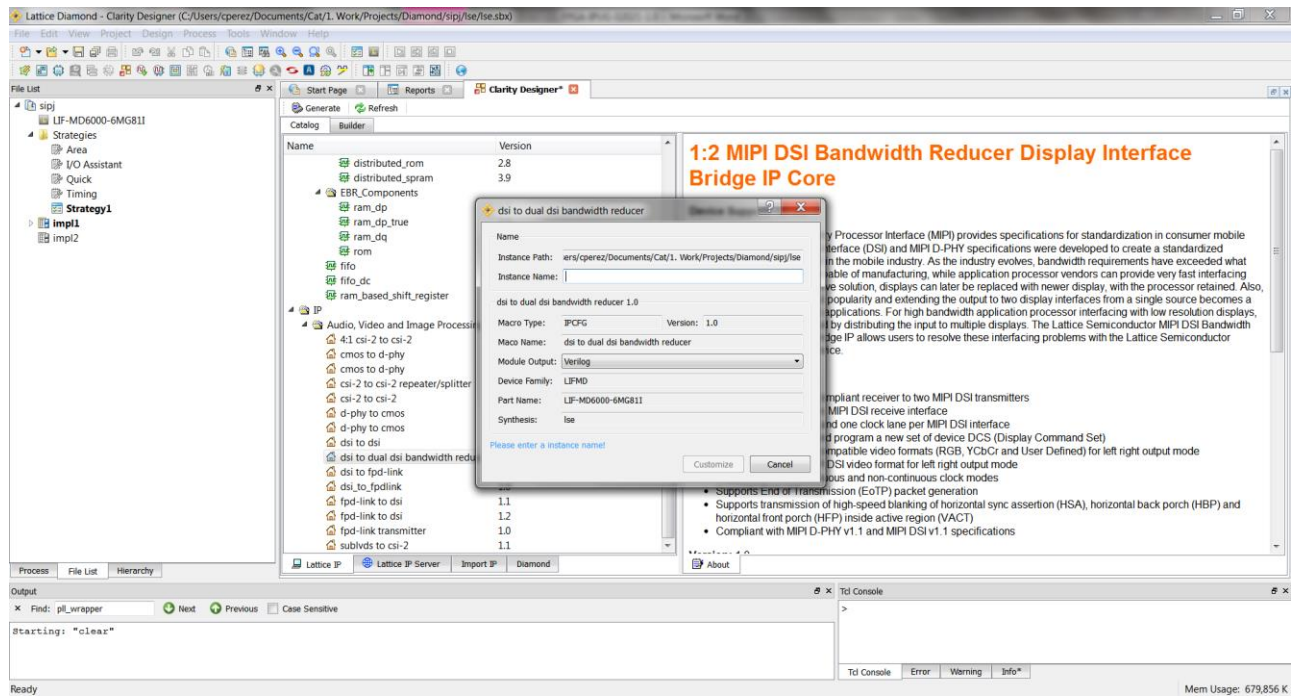

Figure 4.3. Configuring 1:2 MIPI DSI Display Interface Bandwidth Reducer IP in Clarity Designer
1. Double-click **dsi to dual dsi bandwidth reducer** in the IP list of the Catalog view. The **dsi to dual dsi bandwidth reducer** dialog box is displayed as shown in Figure 4.3.